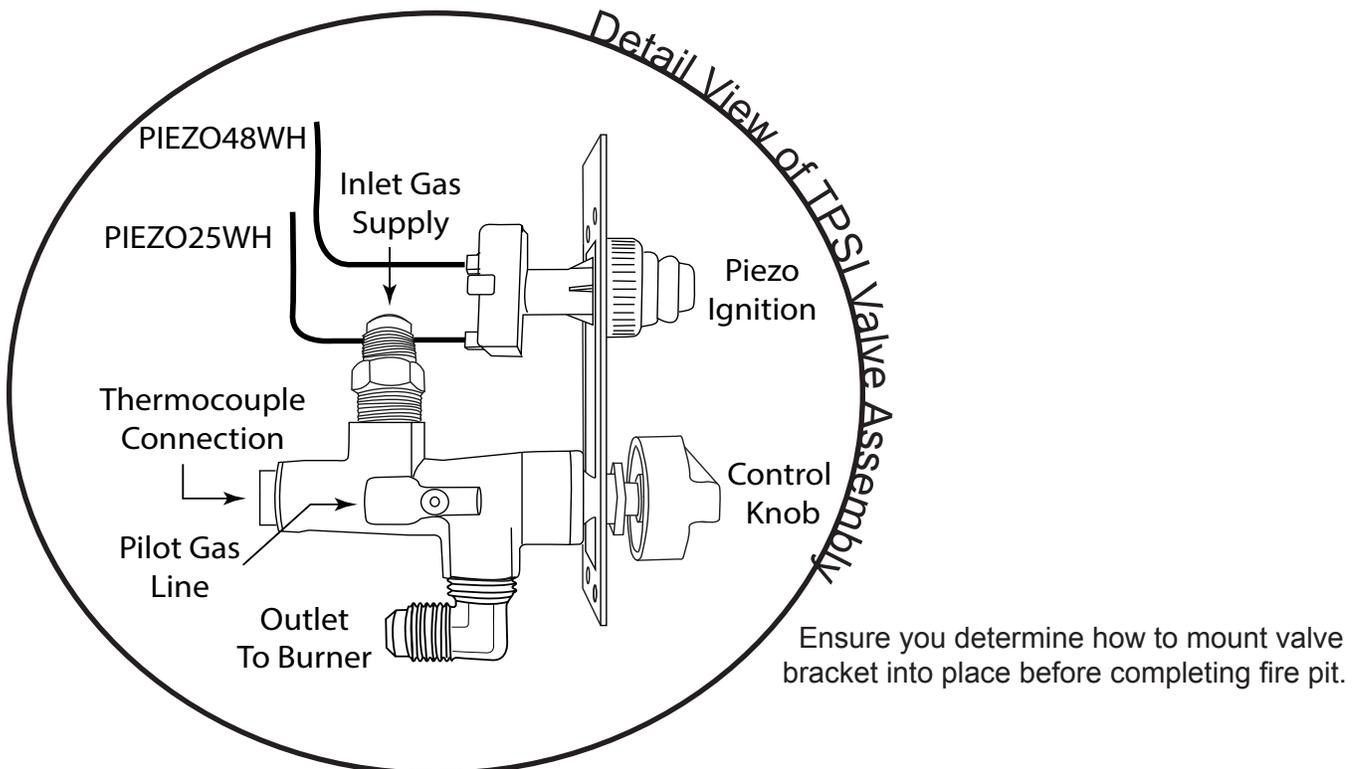

Fig. 12 Typical installation.
3. The primary gas shut-off (not supplied) will require a $\frac{1}{2}$ " male flared fitting to enable connection of the stainless steel flex gas line supplied with the fire pit (see Fig. 12 page 10).